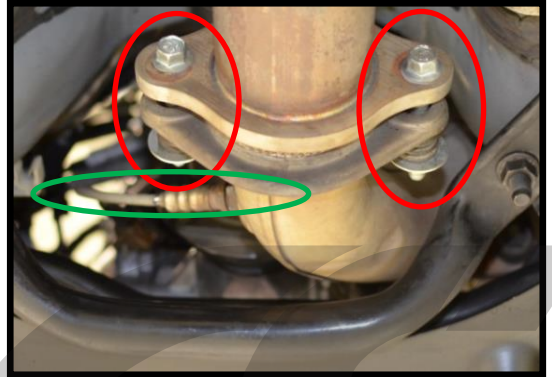

Figure 6d
- f) Remove the lower oxygen sensor. **Green circle** in **Figure 6d**.
- g) Remove the two 14mm bolts attaching the racepipe to the cat back exhaust. **Red circles** in **Figure 6d**.